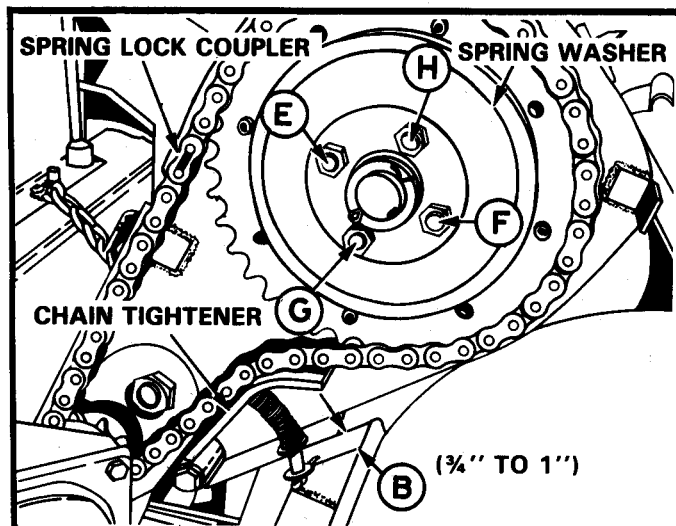

FIGURE 20
The external drive chain is properly adjusted when distance "B", Figure 20, is from 3/4" to 1".
- Pry link arms up until the chain pushes the curved tightener spring rod outward 3/4" to 1". See Figure 20.
- Loosen nuts E, F, G, and H, Figure 20, then tighten them finger-tight.
THE SPRING LOCK COUPLER, SEE FIGURE 20.